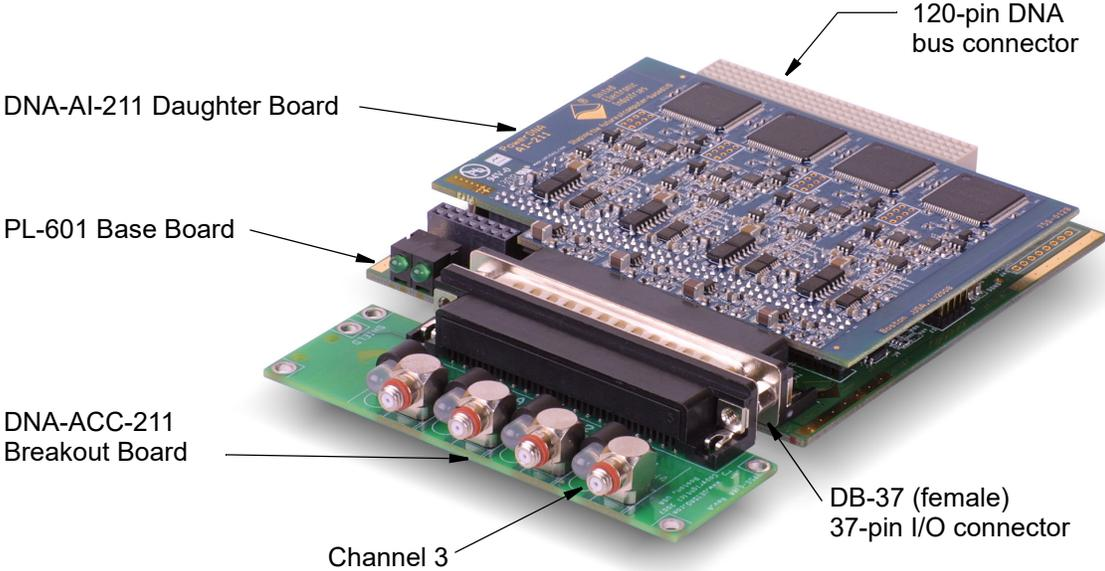

Figure 1-1. DNA-AI-211 Layer and DNA-ACC-211 Breakout Board
Figure 1-1 is a photo of the DNA-AI-211 Layer/board and its associated DNA-ACC-211 breakout board.
1.5.5 Connectors The pinout of the 37-pin connector for the DNx-AI-211 Layer board is shown in **Figure 1-4**. A physical layout of the board is shown in **Figure 1-1** on page 4.